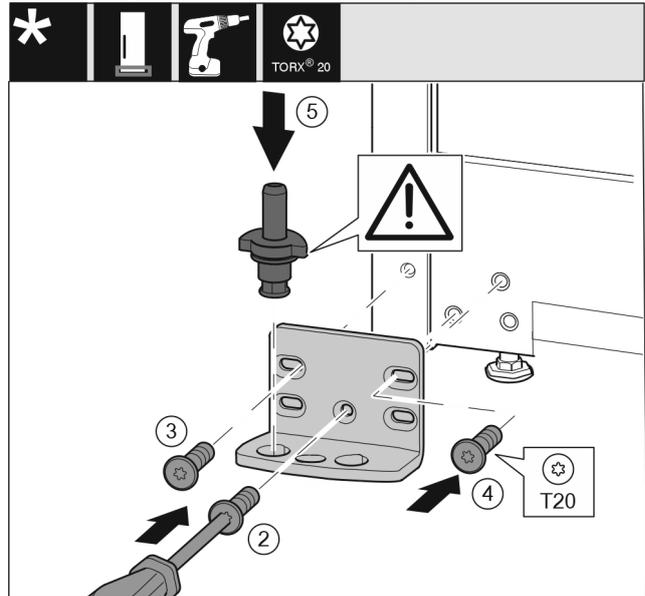

Fig. 20
- ▶ Place the bearing bracket on the other side and screw it on with a T20 screwdriver. Start with screw 2 at the bottom in the middle. Fig. 20 (2)
- ▶ Screw in screws 3 and 4 tightly. Fig. 20 (3,4)
- ▶ Insert the bearing pin completely. Make sure that the latching lug is pointing to the rear. Fig. 20 (5)